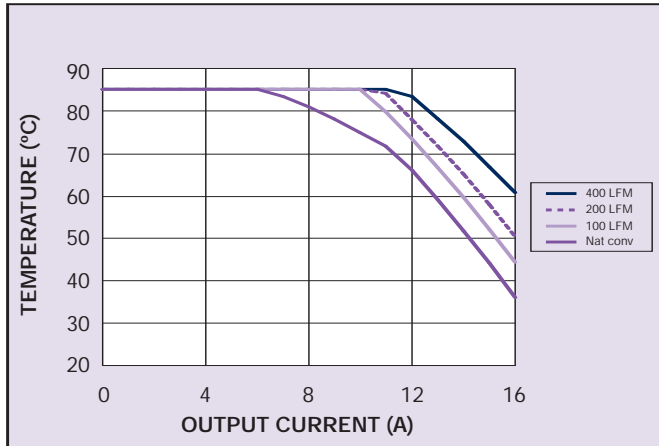

Figure 1 - Safe Operating Area
- See Figures 1, 2, 3 and 6 for safe operating area curves.